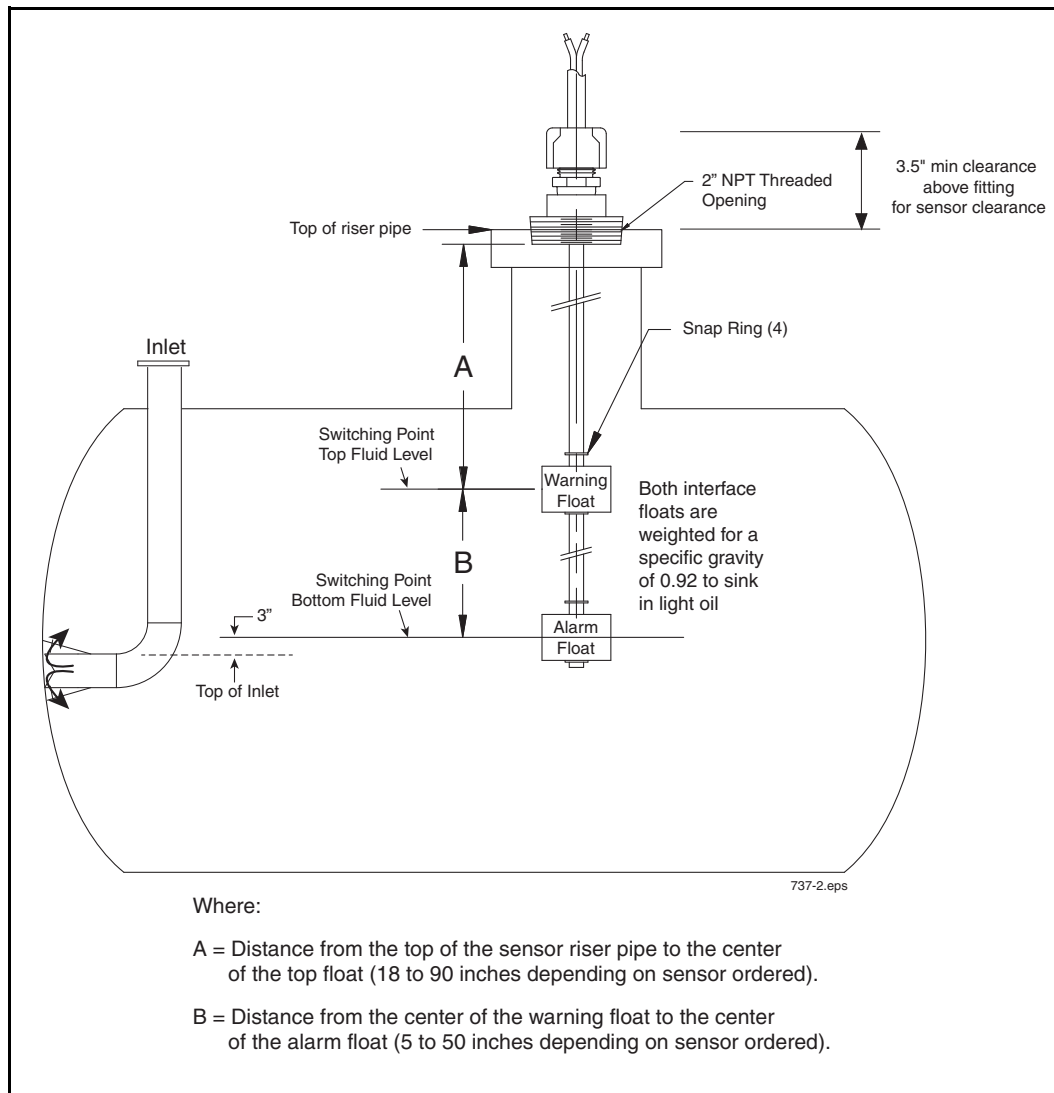

Figure 1. Oil / Water Separator Sensor (Dry Tank Installed) - Riser Installation Example
5. The Oil/Water Separator Sensor is installed by lowering it into the tank and by threading it into the 2-inch NPT riser or appropriate bushing/coupling (see Figure 1). Tighten the sensor to prevent leakage.